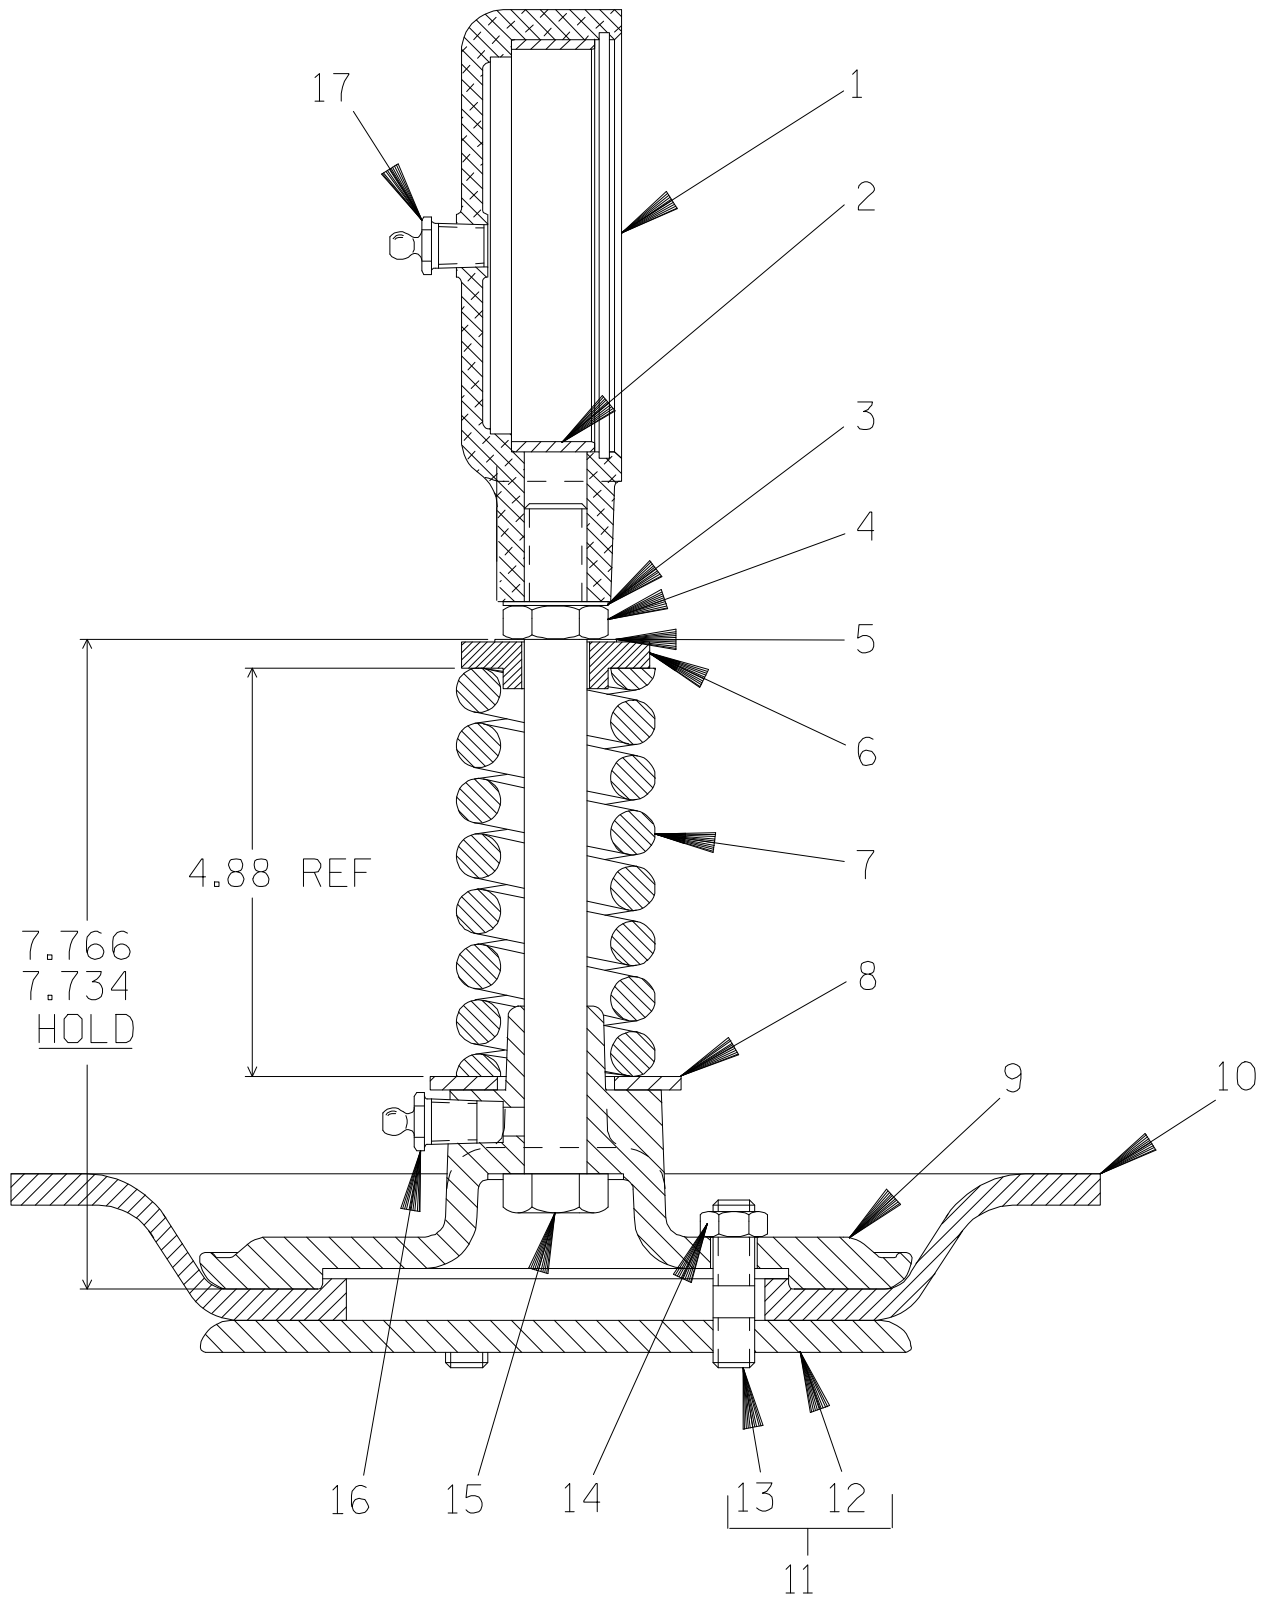

Figure 3. Standard 5685 Plunger Rod Assembly
To remove the diaphragm (10, Figure 3), disengage the hardware (36, 37 and 38) and remove the diaphragm pot assembly (39). Inspect the diaphragm ring for wear or damage. If replacement is required, the gearbox assembly (8) must be removed.
(Figure 3)